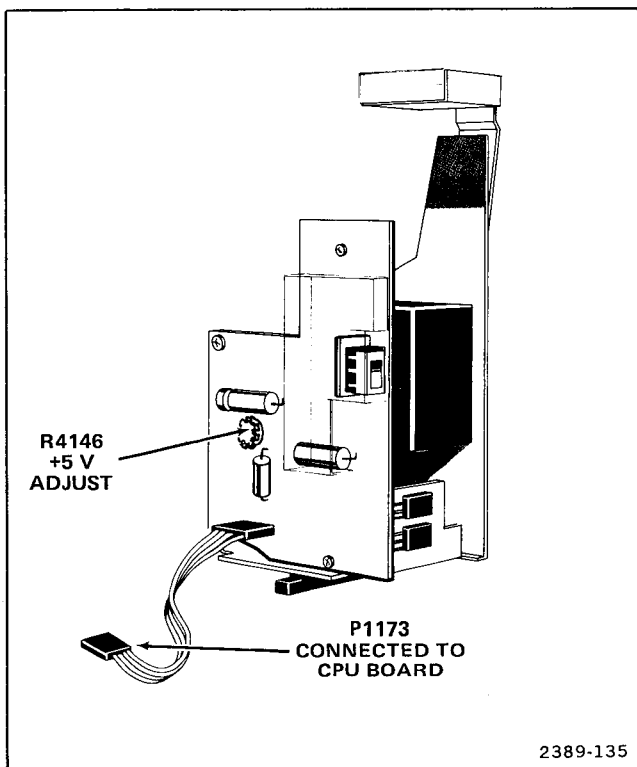

Figure 7-1. Power supply test point and adjustment locations.
- c. Connect the 851 DMM leads between P1173-5 (Figure 7-1) and ground.
- d. ADJUST—R4146 for +5.00 (Figure 7-1).
- a. Connect the 851 DMM leads between P1173-4 (Figure 7-1) and ground.
- c. Connect the 851 DMM leads between P1173-2 (Figure 7-1) and ground.
- f. Connect the 851 Probe A to the F4016 side of L4016 (Figure 7-1).
- m. Connect the 851 Probe A to the F4016 side of L4016 (Figure 7-1).